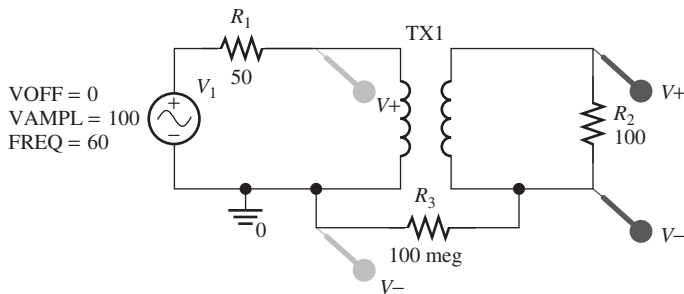

FIGURE 12.43 PSpice schematic solution for Example 12.26.
1. Set up the sinusoidal voltage source and resistor as shown in Figure 12.43. A large resistance (through a resistor) has been used as the bridge between the input and the output of the transformer.
2. To place a transformer into the circuit, go to “Place” > “Part” and type “XFRM_LINEAR.” Place the transformer part into the circuit as shown in Figure 12.43.